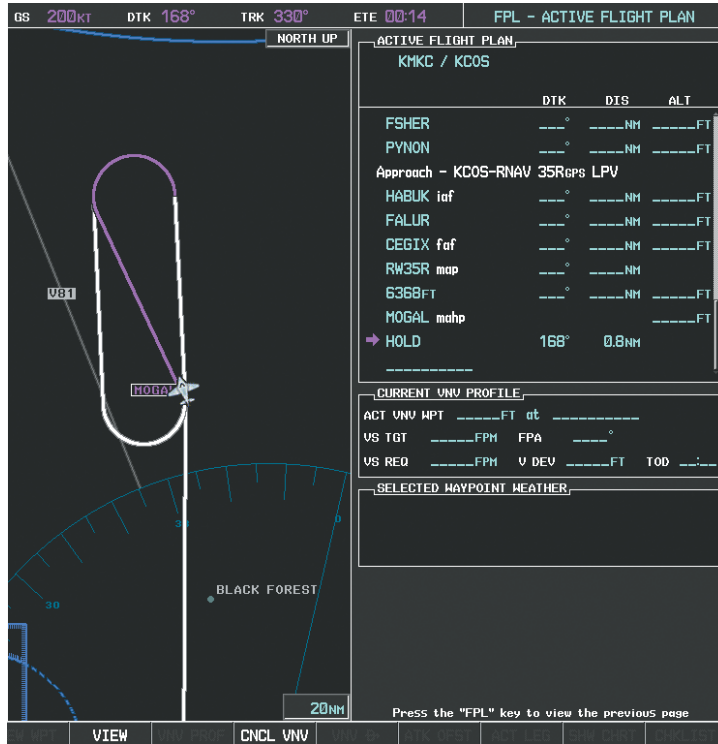

Figure 5-147 Establishing the Holding Pattern
26) The aircraft continues climbing to "AT or ABOVE" 10,000 feet at MOGAL. A holding pattern is established at the MAHP (MOGAL) as shown in Figure 5-147.